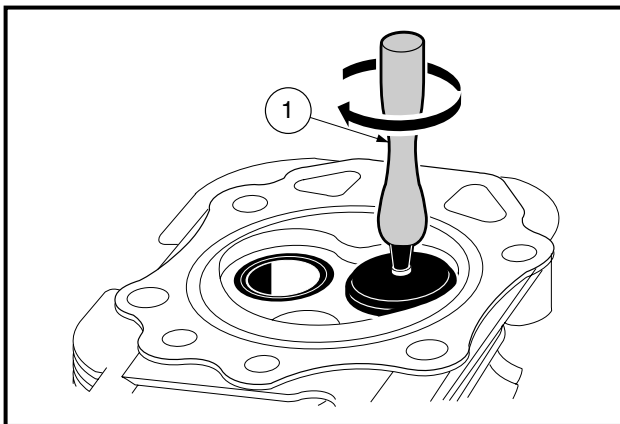

Figure 2-22 Lap Valve to Seat
- 4.2. Use the vacuum cup lapping tool (1) to grip the top of the valve. Rotate the valve in a circular motion to lap the valve to the seat (**Figure 2-22, Page 2-13**).